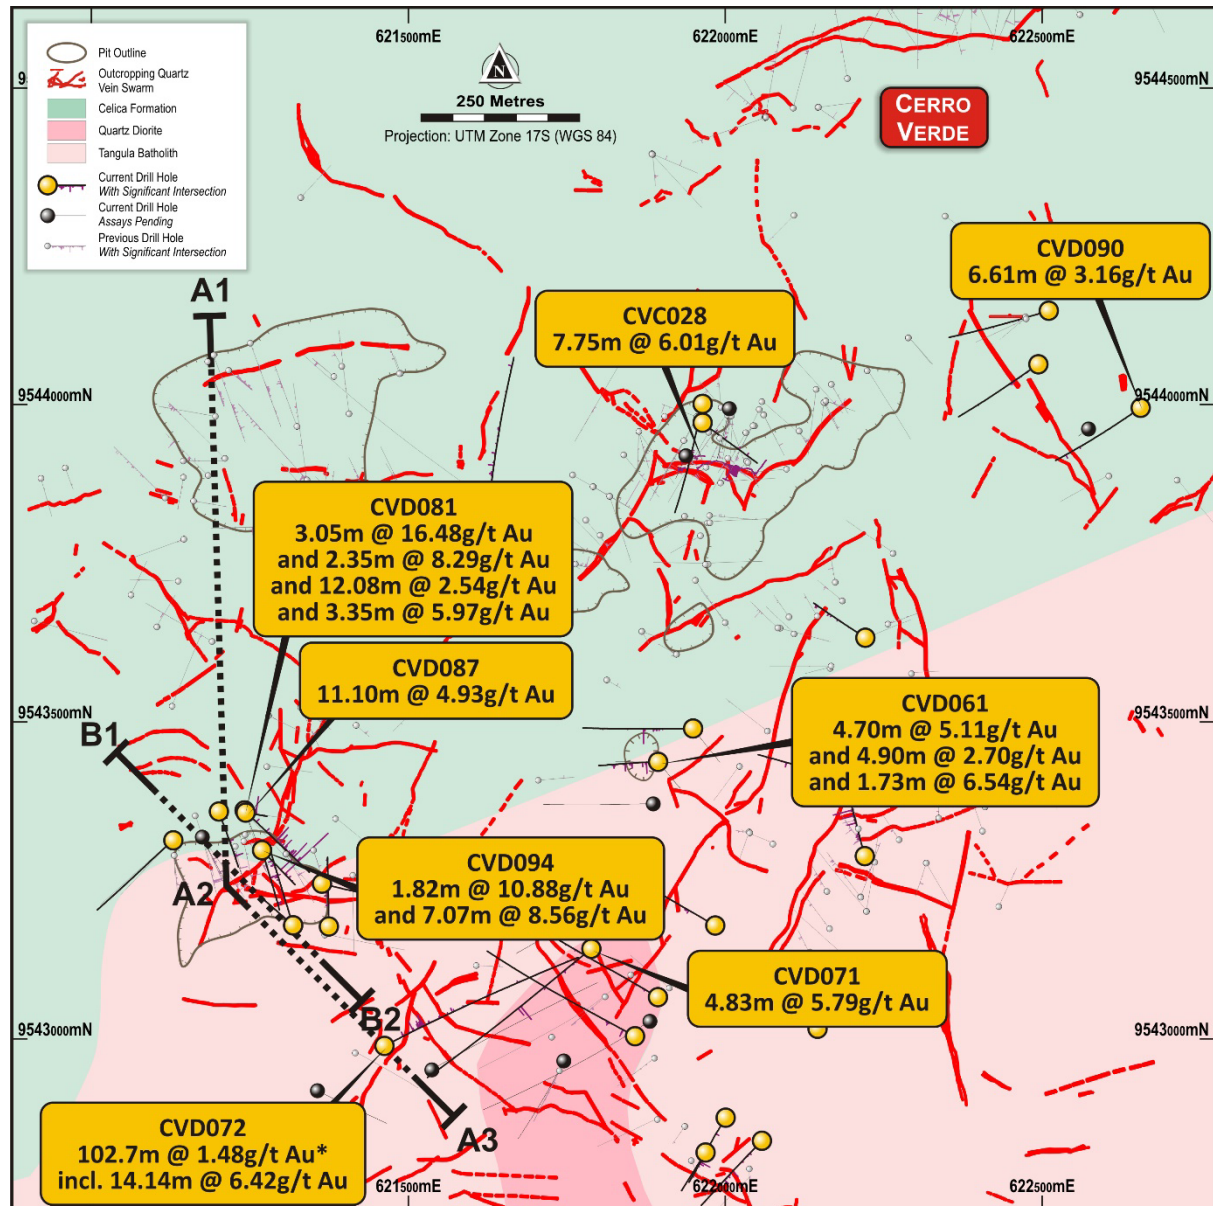

Figure 2: Cerro Verde prospect drill collar location with better reported intercepts on diagrammatic geology interpretation.
- 43.06m @ 2.56g/t gold with 6.95g/t silver was intersected from 72.82m in drill hole CVD072, previously reported with partial assay results (refer to ASX release dated 17 December 2021). Veins in the mineralized corridor above CVD072 include the Estrella, La Herradura, La Colorado and Clavo vein sets trending from northwest to northeast in orientation. The CVD072 intersects multiple veins which persist above and below the 43.06m at 2.56g/t Au, and an additional 12m of sampling proximal to this interval have been recently received, amending a broader intercept previously reported at a 0.3g/t Au cut-off to 102.7m @ 1.48g/t gold from 46.5m depth (refer to Appendix A, Figures 2 and 3).
Figure 3: Fence Section across the 1.6km wide Cerro Verde Prospect spanning across two zones of previous trial mining (at the Esperanza-Venado pits and Comanche-Brecha pits) and extending south to recent intercepts at CVD072. (Refer to Figure 2 for section location)
- 6.37m @ 1.53g/t gold and 9.94m @ 1.42g/t gold intersected from 110.33m and 133.42m depth respectively among multiple other reported intercepts in hole CVD093 (Refer to Appendix A and Figures 2 & 5) highlight a widening of the mineralised corridor identified as the Comanche-Brecha zone.
Figure 5: Comanch-Brecha Vein Zone cross section on extension to mineralisation west of Comanche Brecha trial mining pits (refer to Figure 2 for section location).